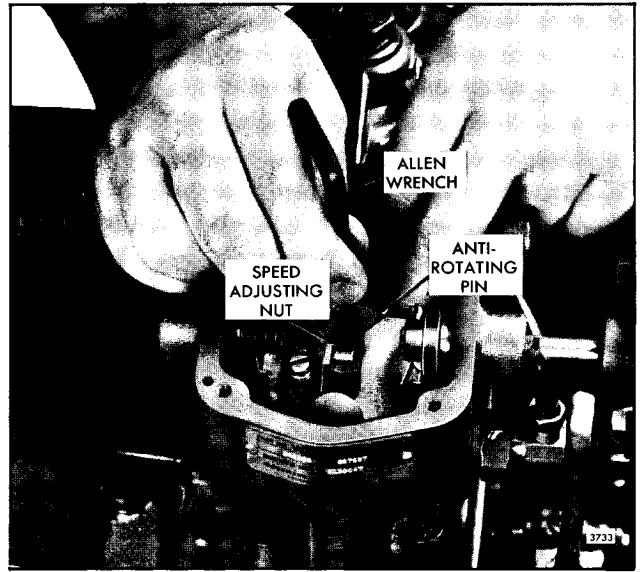

Fig. 13 - Turning High Speed Adjusting Nut
3. Turn the high speed adjusting nut up to decrease or down to increase the speed (Fig. 13).